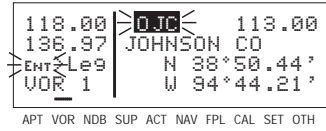

Figure 5-34
7. Press **ENT**. The waypoint page for the waypoint you just entered will be displayed (figure 5-34).